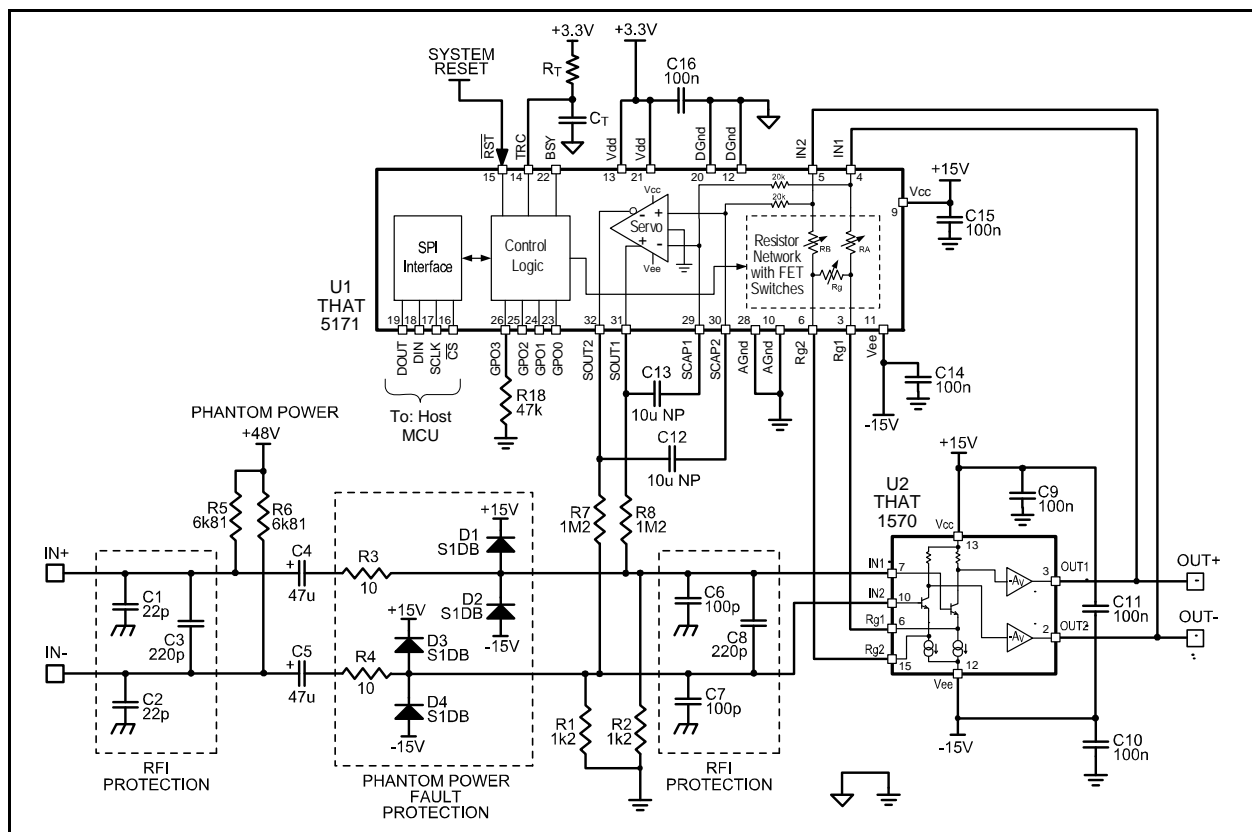
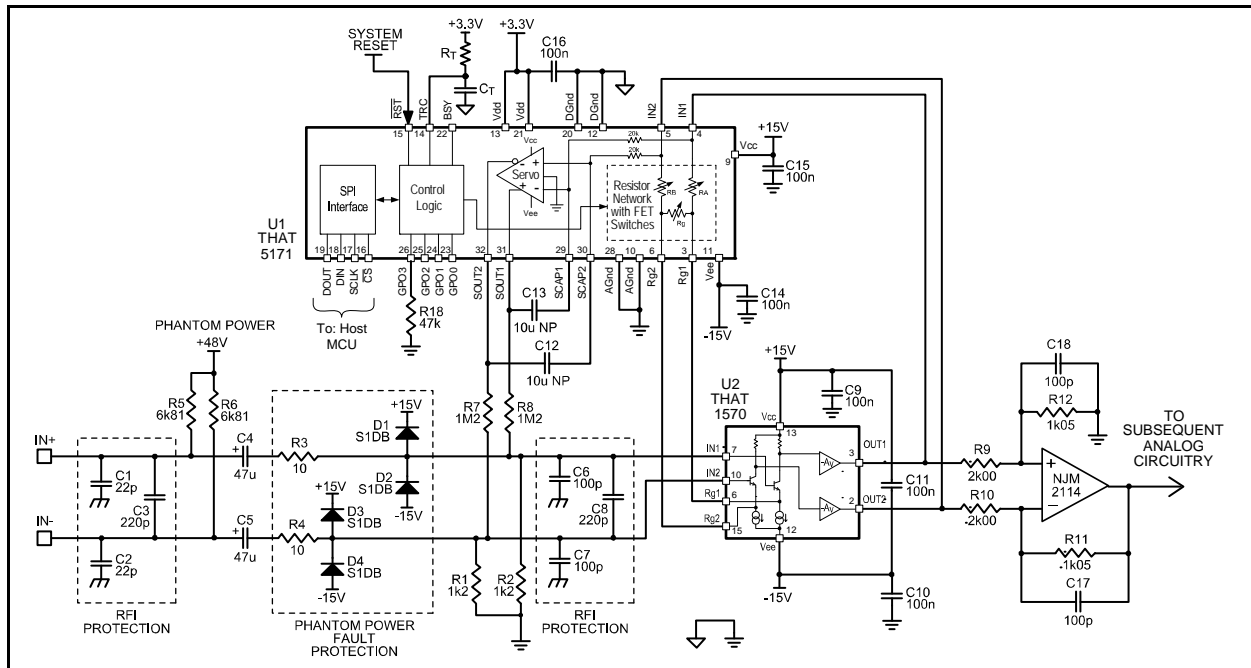

Figure 3. 5171/1570 basic application circuit.
Figure 4. 5171/1570 typical application with single-ended output.
A built-in zero-crossing detector can be used to restrict gain changes to times when the analog signal is very close to zero. The detector monitors the differential signal present between the IN1 and IN2 pins of the 5171. When enabled, it permits gain changes to take place only when the signal is within ±5mV. A timeout (set by external components RT and CT in figures 3~6) ensures that a gain change will always occur at the expiration of the timeout, in case the signal has not gotten within the voltage window by that time.
The combination of the input coupling capacitors (C4 and C5 in Figures 3~6), the bias resistors for the 1570 (R1 and R2 – which form a load for C4 and C5), and the servo, form a 2nd order highpass filter whose characteristics change with the gain setting. The Q of this filter is highest at the highest gain setting. (At low gains, the behavior is governed almost entirely by the input coupling network and bias resistors, since the poles split and the one related to the servo moves very low.) Assuming 1.2kΩ for R1 and R2, and 1.2MΩ for R7 and R8, we can set the highest Q to be about .87 (for approximately Butterworth response) if we choose C12 and C13 to be 1/5 the values of C4 and C5.
The circuit of Figure 3 shows the most basic application of the 5171 and 1570 to form a complete low-noise microphone preamplifier.
The circuit of Figure 3 offers differential gain that varies from 5.6 to 68.6dB. There is one large ~8dB step from 5.6dB to 13.6dB. Above 13.6dB, gain may be controlled in 1dB steps to +68.6dB. For single-ended analog outputs, the circuit of Figure 3 can be followed by a differential-to-single-ended converter, as shown in Figure 4. Here, the differential amplifier is configured for -5.6dB gain in order to minimize noise and maximize headroom at the output of the circuit. Including the 5.6dB attenuation in the differential amplifier, the system gain can be set to 0dB, or any gain from +8dB to +63dB in 1dB steps.
With the circuit of Figure 4, the maximum input signal levels remain the same, but the (now single-ended) output levels drop by 5.6dB due to the loss of the differential amplifier. When converting to single-ended signals, take care to select a low-noise opamp, and pay attention to the noise generated by the impedances. The component values shown in Figure 4 will largely preserve the dynamic range of the 1570 and 5171 combination, though they do compromise noise by 1dB at the lowest gain settings.
The circuits of Fig 3 through 6 include RFI protection in two sections. Small capacitors ( $C_1$  and  $C_2$ ) are used from the positive and negative signal inputs to chassis ground, along with a larger capacitor ( $C_3$ ) across the two inputs. These components should be located as close as possible to the input signal connector, and are intended to prevent RF from entering the chassis of the device.
- 2) **ZERO-CROSSING Mode:** Updates are made on the next output signal zero-crossing after a rising edge on the /CS pin. An RC time constant connected to the TRC pin ( $R_T/C_T$  in Figures 3~6) establishes a time-out period in case a zero-crossing does not occur within a desired time window. The zero-crossing time-out function operates as follows: